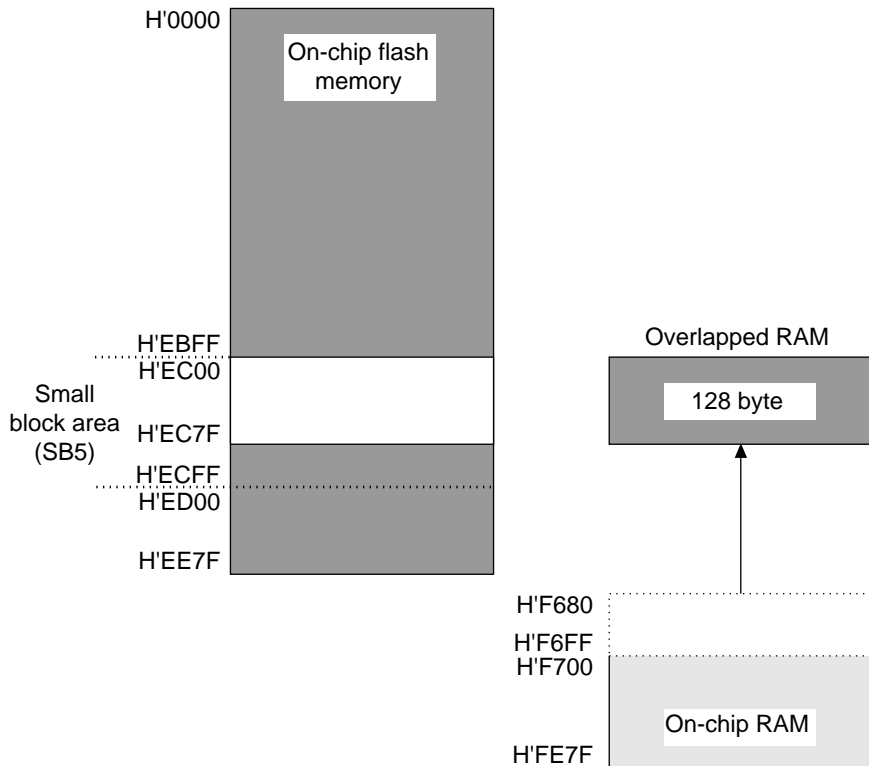

Figure 1.11 RAM Overlap Operation Example (Addresses H'EC00–H'ECFF)
- The overlap RAM area is 128 bytes located at addresses H'F680–H'F6FF (figure 1.11).